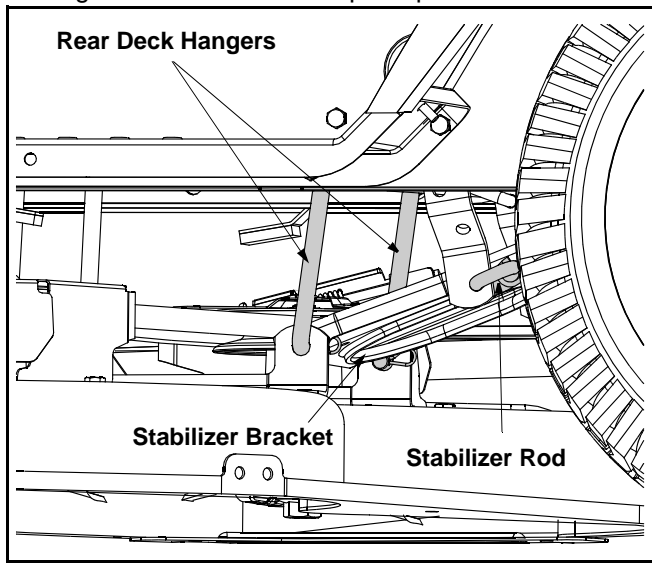

Figure 17
- Remove the hairpin clips which secure the rear deck hangers to the deck stabilizer bracket. See Figure 17. Retain the hairpin clips.
**NOTE:** The style and shape the stabilizer bracket and stabilizer rod vary. Yours may differ slightly from that shown in Figure 17.
**NOTE:** For normal service and maintenance, the deck stabilizer bracket doesn't need to be removed from the tractor. If removing the cutting deck in order to mount a Snow Thrower attachment, however, the stabilizer bracket must be removed. To do so, simply remove the hairpin clip which secures the stabilizer rod to the stabilizer bracket. See Figure 17.